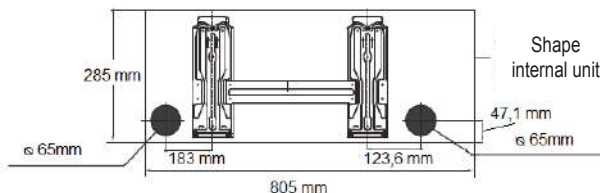

fig. 8 -
1. Remove the pre-cut plate (A-"fig. 8 -") near the desired direction.